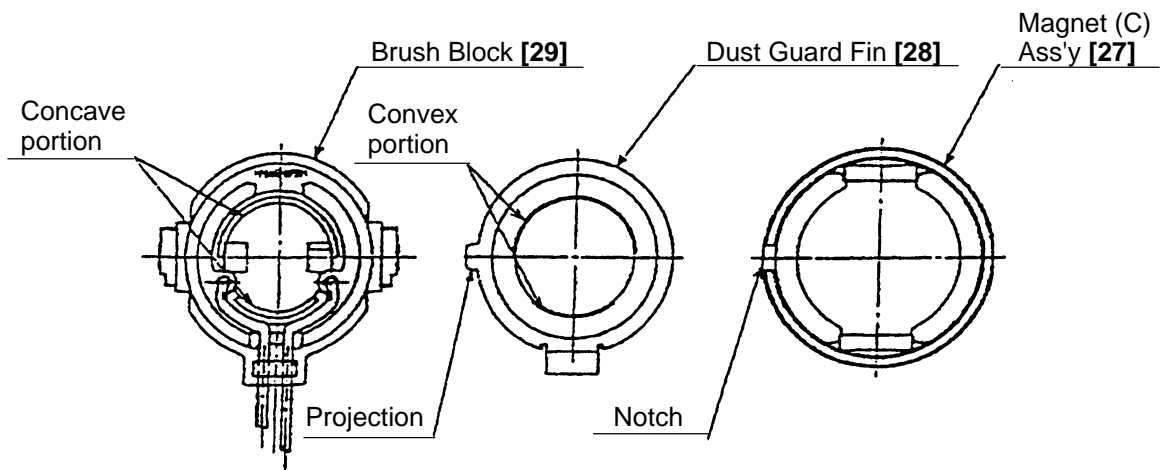

Fig. 11
- Adjust the protrusion of the Dust Guard Fin [28] to the notch of Magnet (C) Ass'y [27] when mounting the Dust Guard Fin [28] to Magnet (C) Ass'y [27] (See Fig. 11).
- Insert the two Dampers [24] so that they fit into the Inner Cover [25]. Fit the locking rib of Ring Gear (C) [21] to the concave portion of the Damper [24]. Press-fit the Armature DC 14.4V [26] into the Inner Cover [25].
- Adjust the convex portion of the Dust Guard Fin [28] to the concave portion of the Brush Block [29] (See Fig. 11).
- Adjust the notch (for locking) of Magnet (C) Ass'y [27] to the protrusion of Housing (A) [35] (See Figs. 11 and 13).